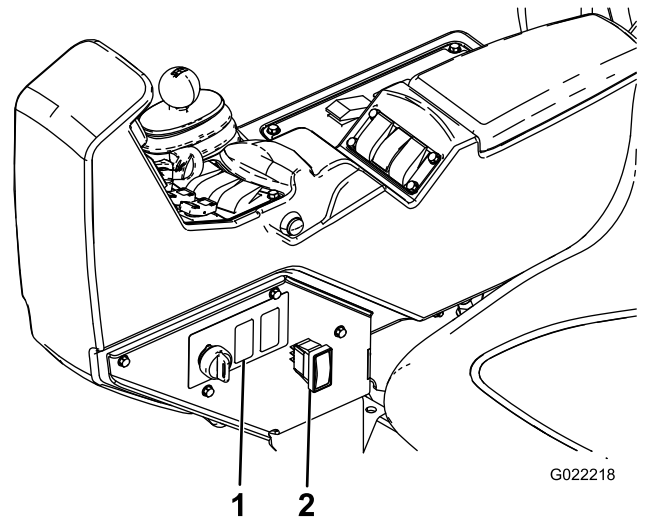

Figure 13
1. Locate the plug for the rinse tank switch on the side of the sprayer console and remove the plug (Figure 13).
4. Install the switch to the box connector through the console (Figure 13).